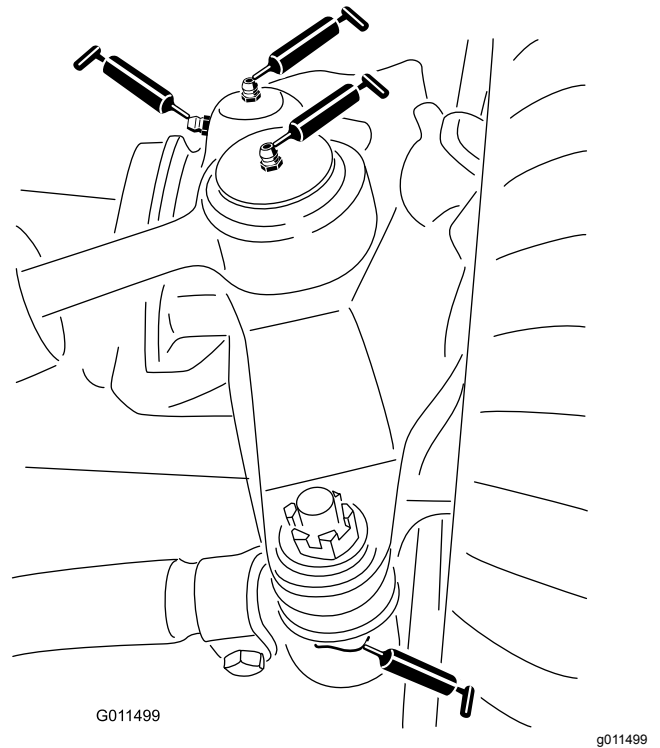

Figure 61
- Steering cylinder ball joints (2) (Figure 61)
- Tie rod ball joints (2) (Figure 61)
- King pin bushings (2) (Figure 61).